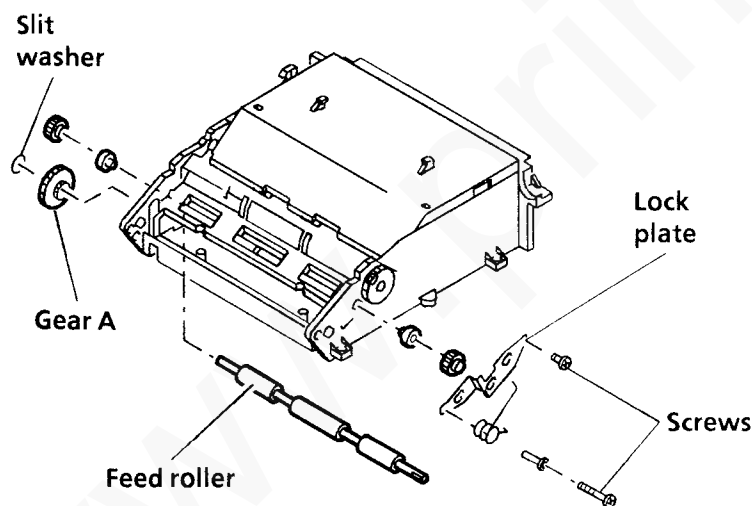

Figure 1. Feed roller
5. Remove two screws from the lock plate (Figure 1).
12. Remove the slit washer (Figure 1) retaining the center gear.